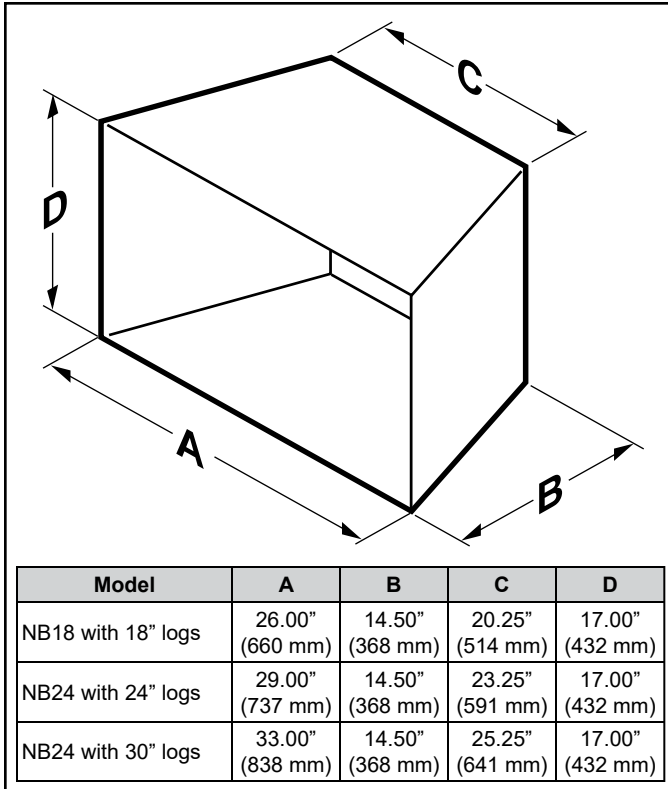

Figure 3.1 Minimum Hearth Dimensions
- Review the attached tags before proceeding. Ensure that all minimum fireplace dimension requirements are achieved using Figure 3.1.
NOTE: Non-combustible material such as refractory brick may be used to line the floor of the fireplace in order to raise the height of the gas log set in relation to a restrictive barrier. If the appliance is raised, the minimum height dimension shown in Figure 3.1 must be met or exceeded.